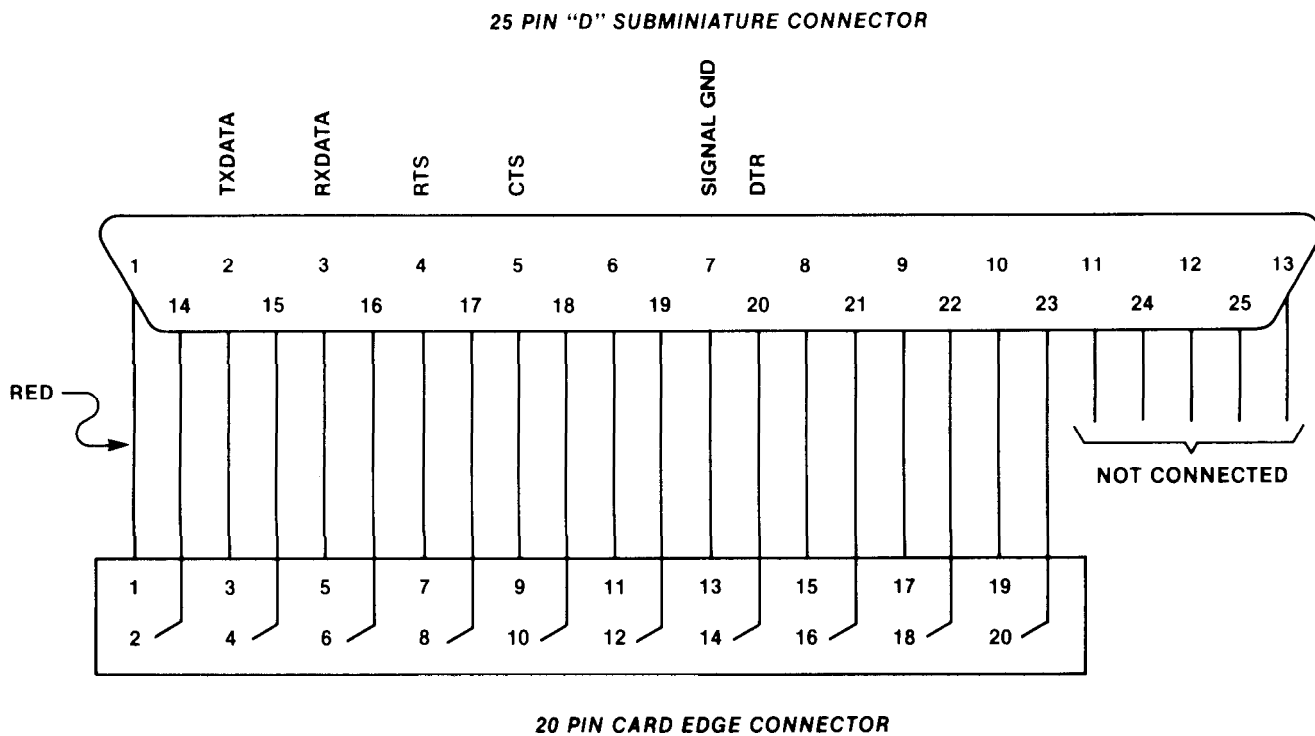

FIGURE 2-13. Host Cable Signal Line Connections
2.5.2.2 Cable Connection. The same cables referenced in paragraph 2.3.1 can be used with the host serial port. As before, the cable can be either purchased or manufactured with the components referenced in Figure 2-7. The card edge connector can also be keyed. Figure 2-13 shows the host computer serial port cable signal line connection.